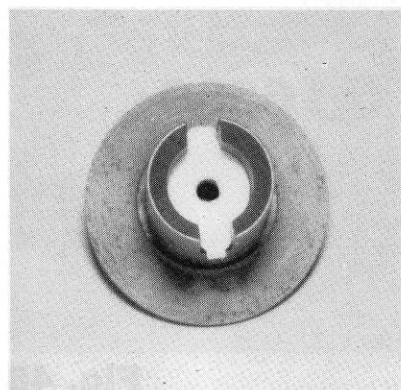

**Fig. 42**
□ **Fig. 42** Take an Exacto knife and trim off any of the plastic T-nut that extends outside of the slot, as shown.